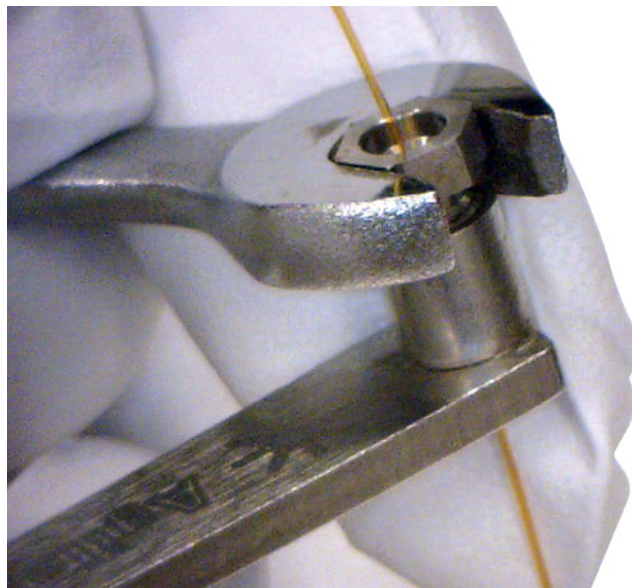

Figure 13. Tightening the internal nut
- c Check if the ferrule is gripping the column. If yes, stop. If not, continue to tighten the internal nut in small 5- to 15-degree increments. Check after each increment to see if the ferrule is gripping the column. Stop as soon as gripping occurs (see **Figure 13**).